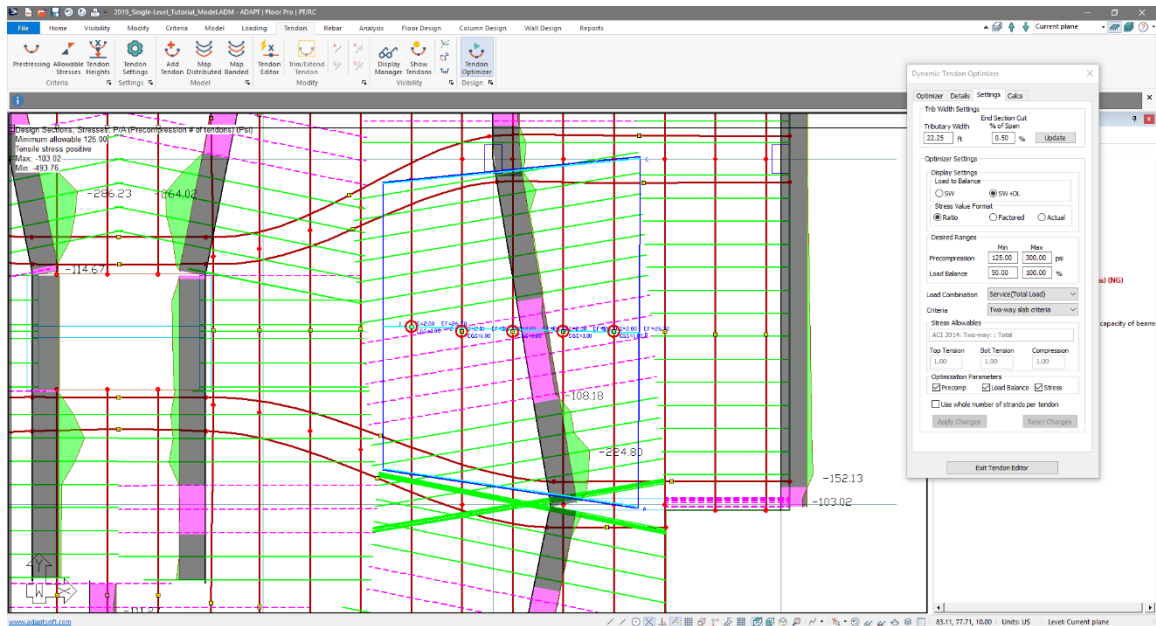

Figure 8-69
- Click the *Update* button in the *Trib Width Settings* section of the *Settings* tab. You will see the cyan design cuts adjust closer to the location of where our support line cuts are as shown in **FIGURE 8-69**.